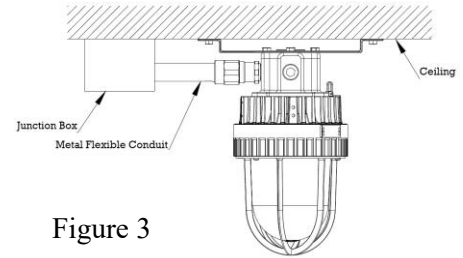

Figure 3
- ☞ The mount bracket is for the use of ceiling mount (Figure 3).